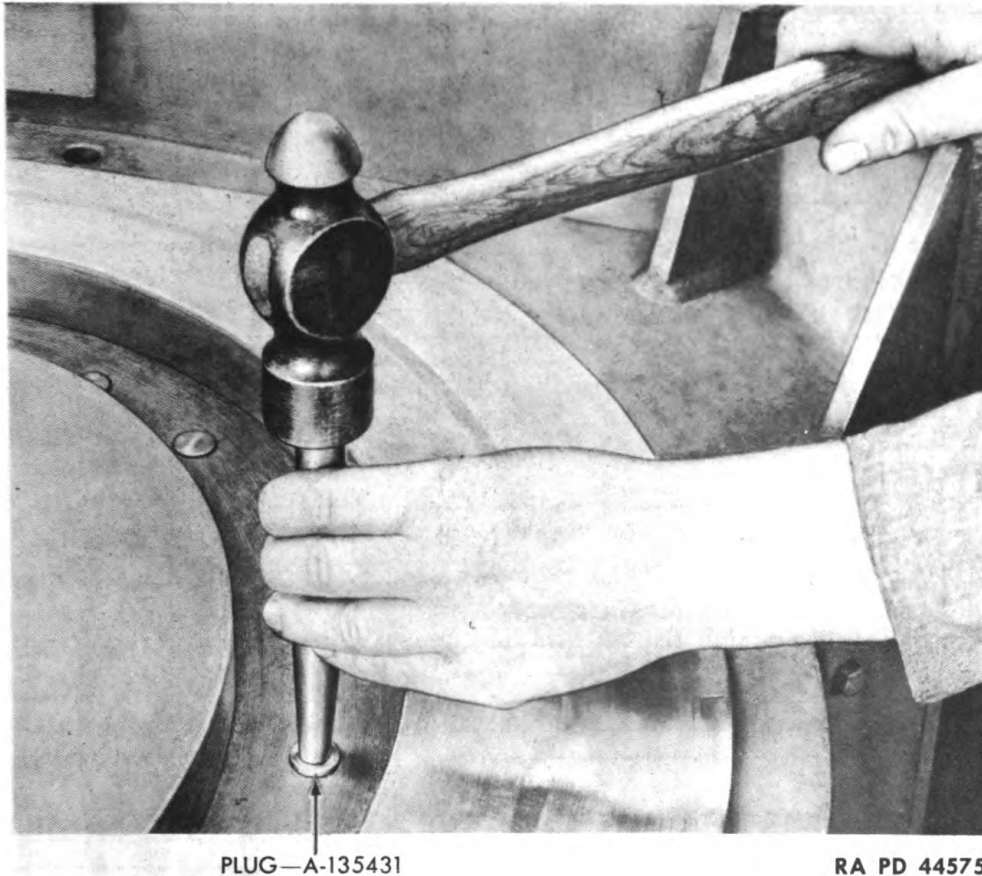

Figure 224—Installing Centering Plug
(2) Remove loose or damaged plugs with an Ezy-out extractor.
(3) Coat mating surface of new centering plug or plugs, and the opening or openings in bottom carriage with **TALLOW**, mutton, refined, or **LEAD**, white. Drive new plug or plugs in place with a brass drift and hammer (fig. 224).